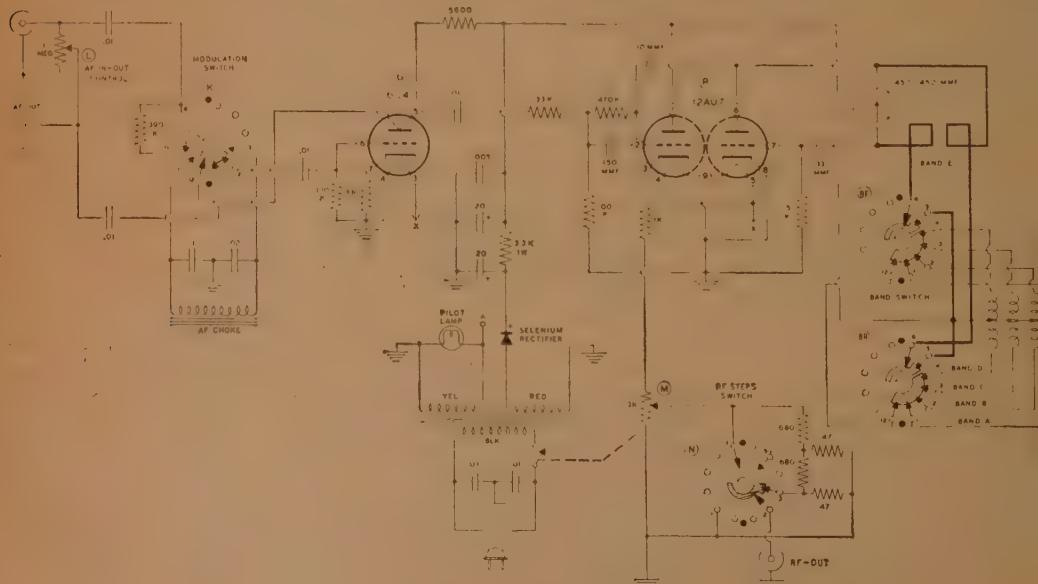

Fig. 1—Circuit of the Heathkit SG-8.
in fig 1. The 6C4 triode is the modulator, a is connected as a Colpitts oscillator. AF out is tapped off the plate (terminal 5) and fed the grid of the cathode follower through a sive network. When the modulation swit is thrown to "EXT" position (as shown in 1), the 6C4 functions as an AF amplifier, external modulating signal may be introduced at "AF IN" and its amplitude varied by t potentiometer (L, in fig 1). With the modulation switch at "INT" position, the audio oscillator not only modulates the rf output throu mixing in the cathode follower, but is also accessible and variable through the same potentiometer (L) at the "AF OUT" terminal.